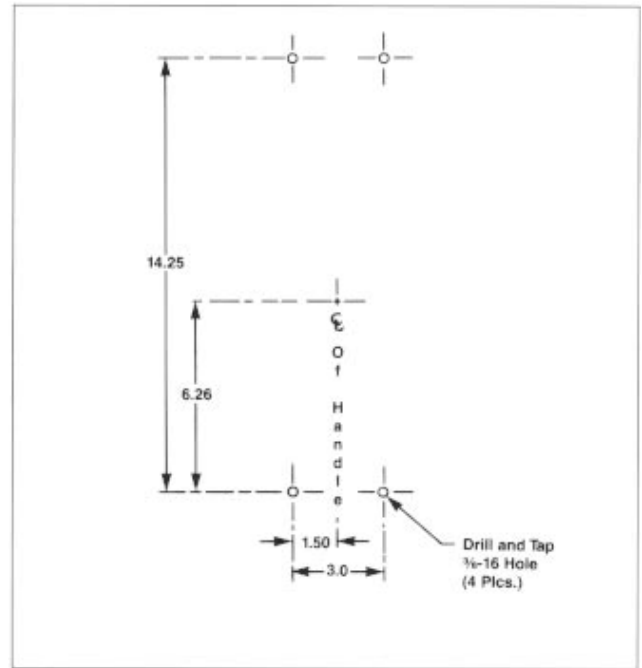

Figure 1
2. For those applications where mounting is on a flat surface of the customers equipment, drill and tap mounting bolt holes according to the drilling plan in Figure 1. For handle escutcheon cut out plans refer to Figure 2.